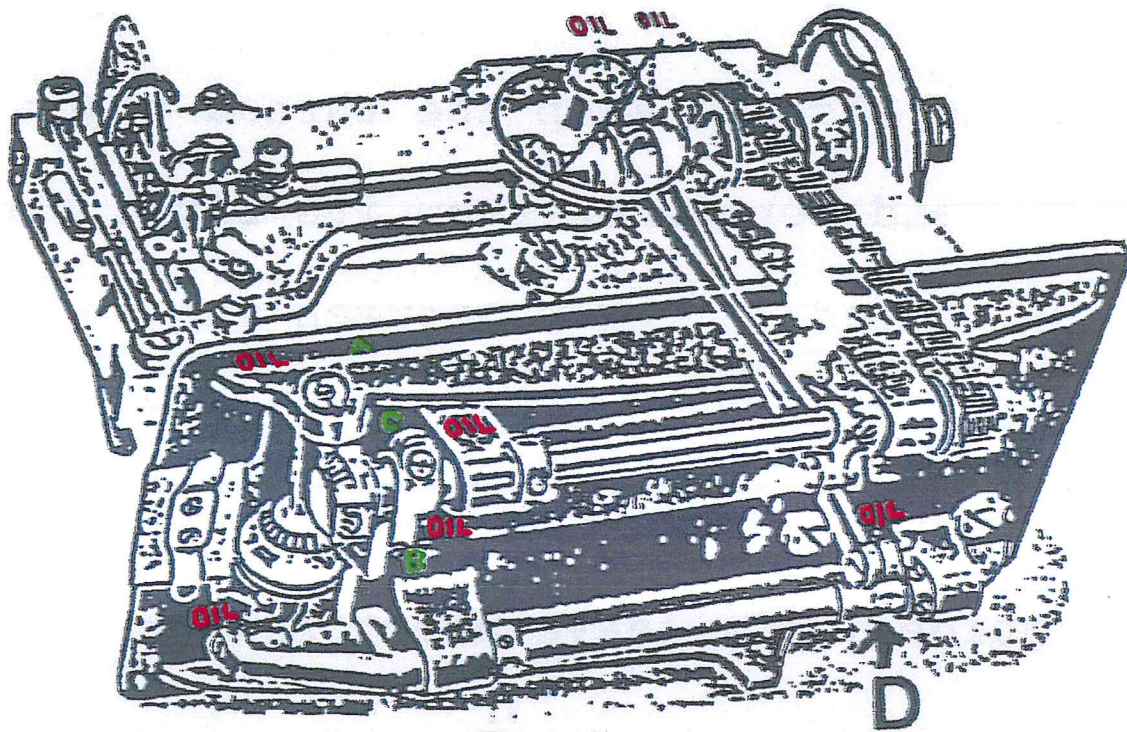

Figure 3
13. Tip the machine back and oil the Feed Bar Slide Block and all of the oil holes (see Fig 3, Page 4).